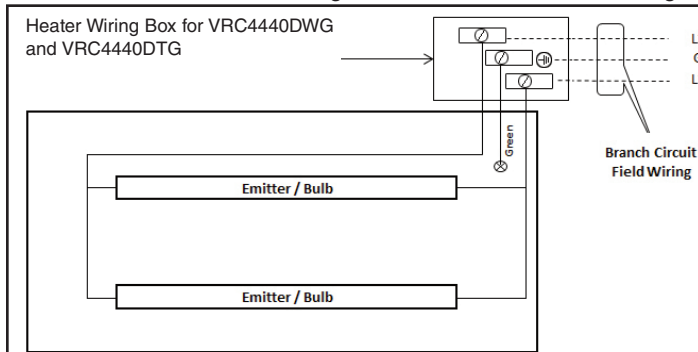

Figure 4B - Wiring Diagram (2 element model shown)
3. Connect the two remaining power wires to the L1 and L2 terminals on terminal block making sure connections are tight to avoid overheating. – See Wiring diagram Fig.4B.